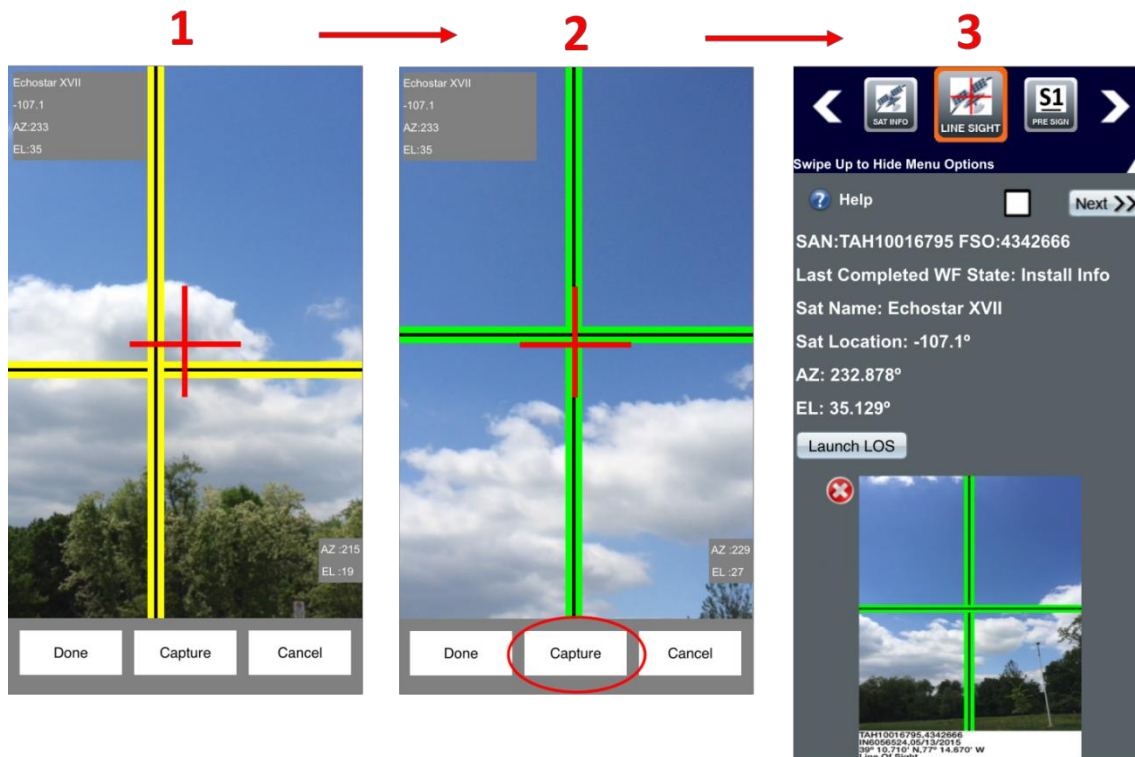

Figure 19: Line of Sight step – elevation
2. Tilt your device vertically to launch the LOS feature, which is shown in Figure 19.
The yellow crosshair will turn green when you are within 5 degrees of exact alignment with the satellite, as shown in Figure 19.
5. Tap **Capture** (circled in Figure 19) to take a screenshot of the LOS measurements. OASIS records the required LOS information (satellite name, satellite location, and Az/EI measurements).